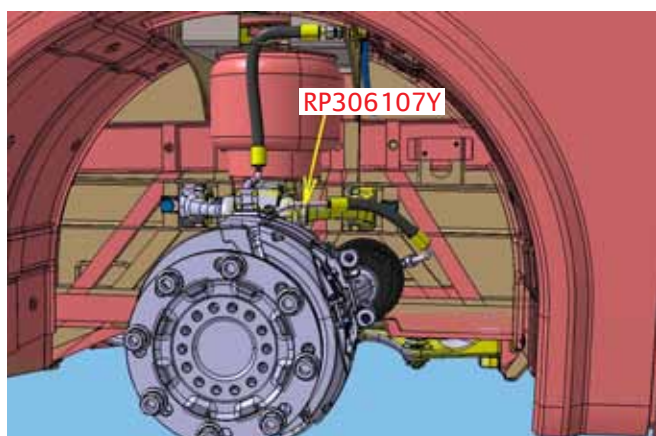

Fig. 2
2. The right tire brake hose (RP306107Y) is shown in Fig 2.